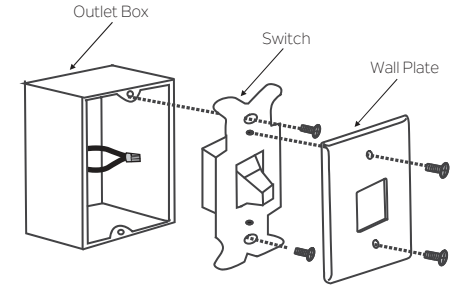

Fig. 27
**Step 1.** Remove the existing wall plate and the old switch from the wall outlet box. Wire nut the BLACK leads (hot) together and push back inside the outlet box. **(Fig.27)**